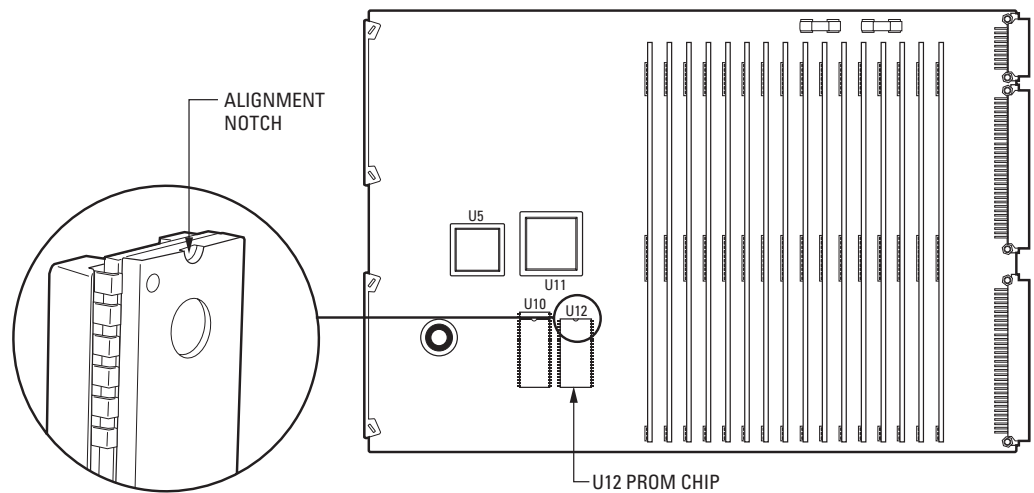

Figure 3. U12 PROM Chip
- a. Locate the existing U12 PROM chip on the video output card (refer to Figure 3).
- d. Note the alignment notch at the top of the chip (refer to Figure 3). Orient the chip so that the notch on the chip aligns with the notch that is drawn on the surface of the circuit board. Verify pin-to-socket alignment, and then carefully press the chip into its socket until the chip is seated completely.